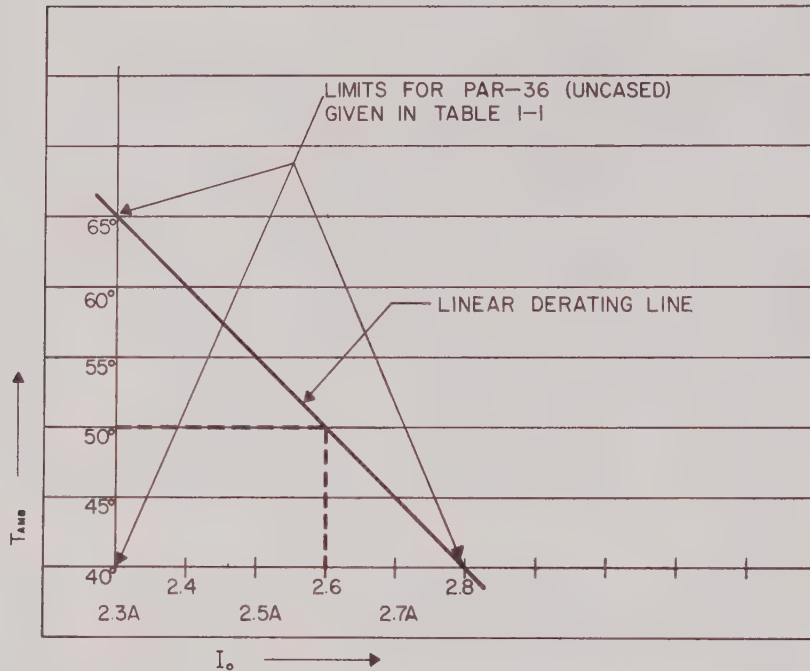

FIG. 3-1 CONSTRUCTION OF DERATING GRAPH
- 3-11 (Refer to FIG. 3-1 and FIG. 4-1) The operating equations of the Kepco bridge at balance ($V_{AA'} = 0$) are: